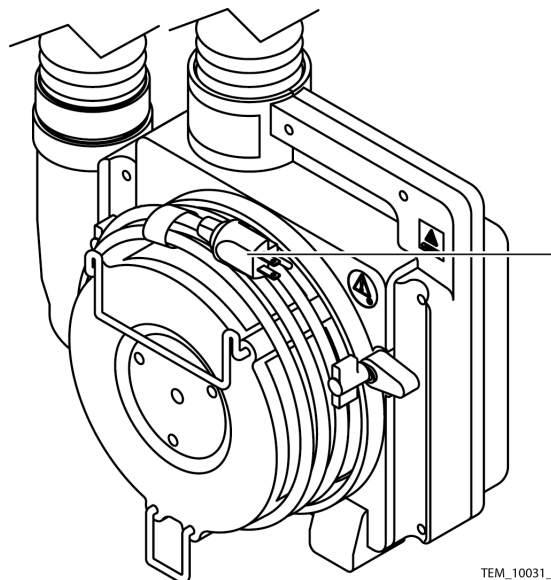

Figure 5-1. Power Cord
3. Unwind the power cord from the filter cover. See Figure 5-1.